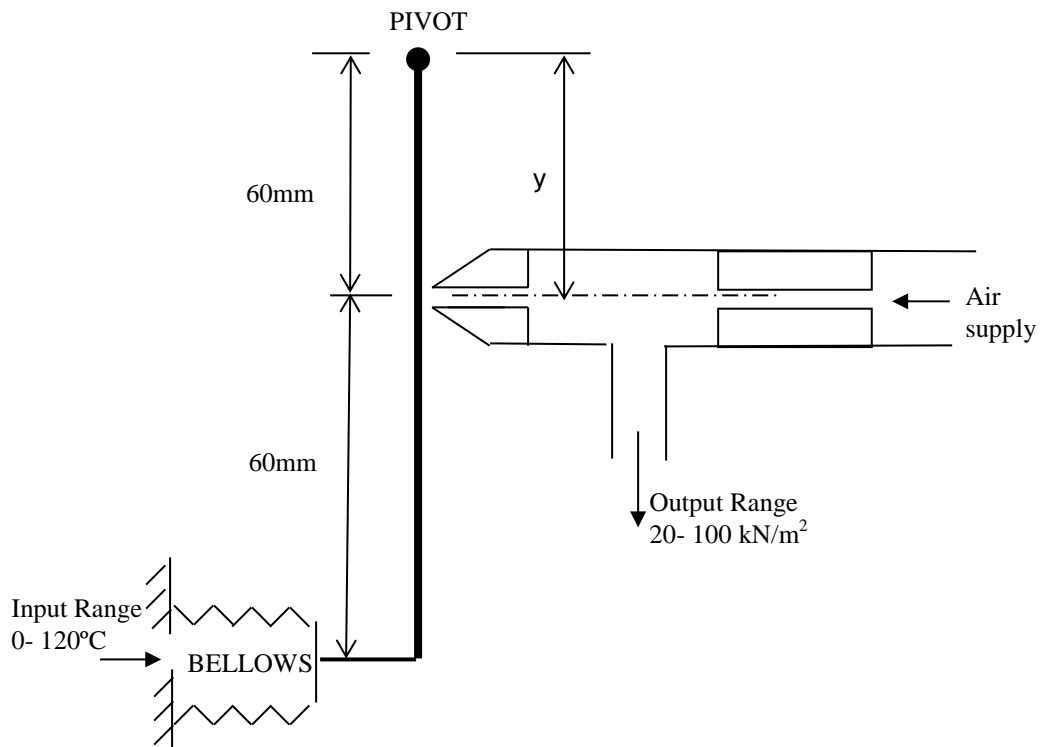

Fig Q3
- (a) the distance of nearest approach between the TWO vessels if they both maintain their present speed and course; (8)
- (b) the absolute course and speed of the second vessel. (8)
- (a) Sketch the arrangement showing all forces and torques present. (4)
- (b) Calculate the driving power required at the drum at this instant. (12)
3. A basic flapper/nozzle device is shown in Fig Q3 (not drawn to scale). The pneumatic signal for the input bellows unit is proportional to the measured temperature within the range 0-120°C. The output signal range is to be 20-100 kN/m2.